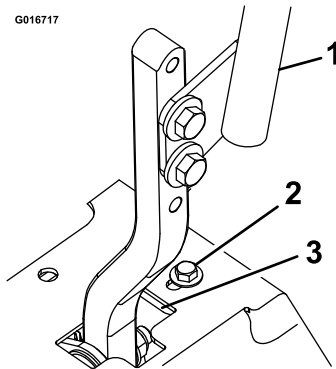

Figure 29
1. Loosen the screws on a cover plate (see Figure 29).